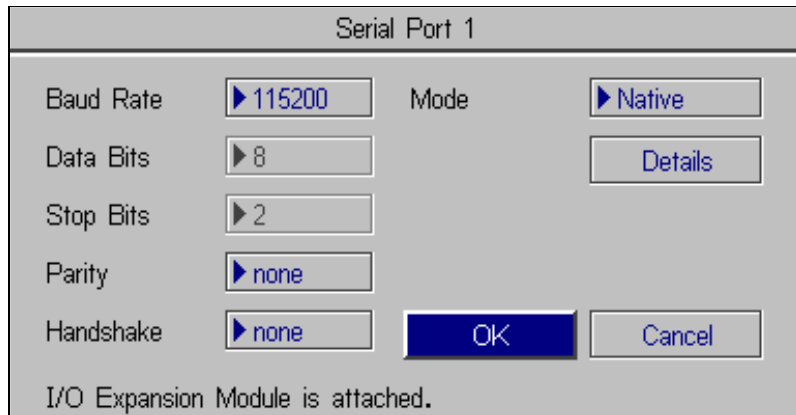

Figure B-5: Serial Port Dialog
3. Select Serial Port 1 (Figure B-5).